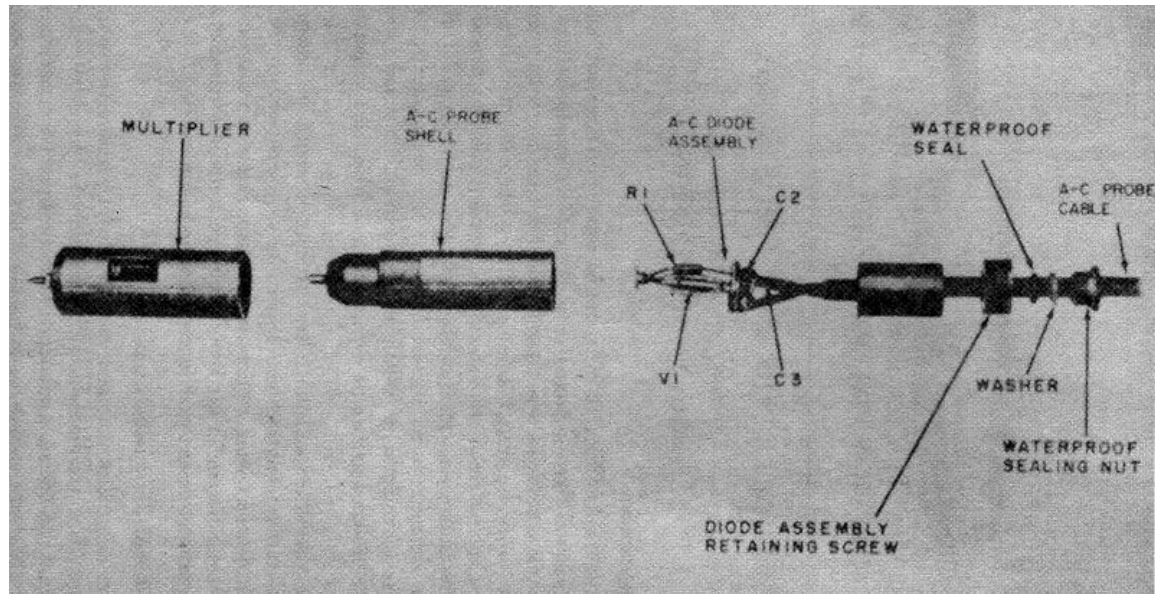

Figure 21. Exploded view of a-c probe.
(1) With one hand, grasp the diode assembly retaining screw to prevent it from turning; with the other hand, loosen the waterproof sealing nut.
(2) Loosen the diode assembly retaining screw. The a-c probe shell will separate from the rest of the assembly.
(3) Slip the waterproof sealing nut, washer, waterproof seal, diode assembly retaining screw, and insulator over the a-c probe cable (fig. 21) to permit access to the tube base.
(4) Carefully unsolder the cable from the tube base. Tag the cable leads to permit identification when resoldering.
(5) Remove a spare diode assembly from the rear of the multimeter and carefully solder the leads from the cable to the spare diode assembly.
(6) Replace the a-c probe shell and tighten the diode assembly retaining screw.
(7) Tighten the waterproof sealing nut.
(1) Repeat the steps in subparagraph b(l) through (4) above at the a-c probe end of the cable. Put the waterproof sealing nut, washer, waterproof seal, diode assembly retaining screw, and insulator on the new cable in the order shown in figure 21.
(2) Repeat the steps in subparagraph b(6) and (7) above.
(3) Remove the sealing nut, washer, and waterproof seal at the multimeter end of the cable. An open-end wrench may be used on the sealing nut.
(4) Unsolder the cable leads from the terminal board. Tag the cable leads to permit identification when resoldering.
(5) Put the sealing nut, washer, and waterproof seal (in the order named) on the new cable.
(6) Solder the new cable to the terminal board.
(7) Tighten the sealing nut with an open-end wrench.